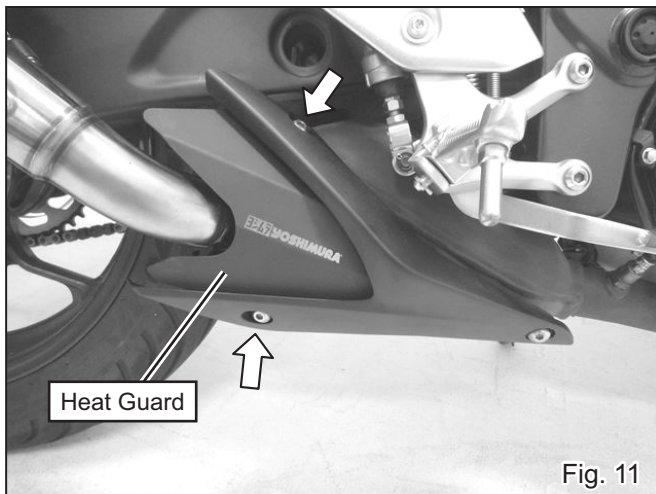

Fig. 11
11) Using 2 stock bolts unscrewed at step 10), set Heat Guard inside stock fairing. And, remount fairing on original place with 3 stock bolts. Tighten and torque bolts (See Fig. 11).